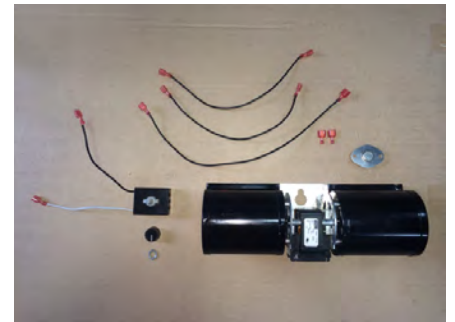

Figure 1: Fan Kit Contents
1. Remove the contents from the box and inspect for any damage to the fan assembly. If damage is noticed call your dealer, distributor or courier company and have components replaced (see Figure 1).